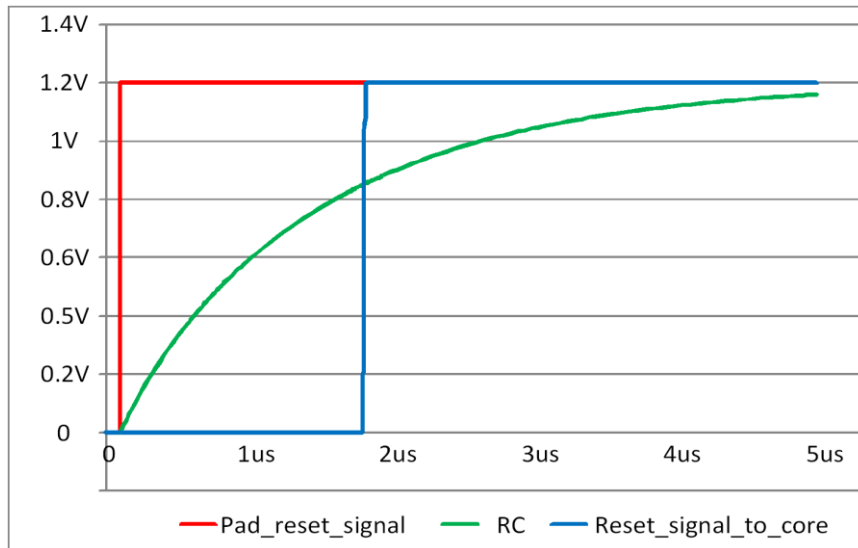

Figure 10: RST Pad Latency
The DA14585 High Temperature comprises an RST pad which is active high. It contains an RC filter for spikes suppression with 400 kΩ and 2.8 pF for the resistor and the capacitor respectively. It also contains a 25 kΩ pull-down resistor. This pad should be connected to ground if not needed by the application. The response is illustrated in the Figure 10 which displays the voltage (V) on the vertical axis and the time (μs) on the horizontal axis: